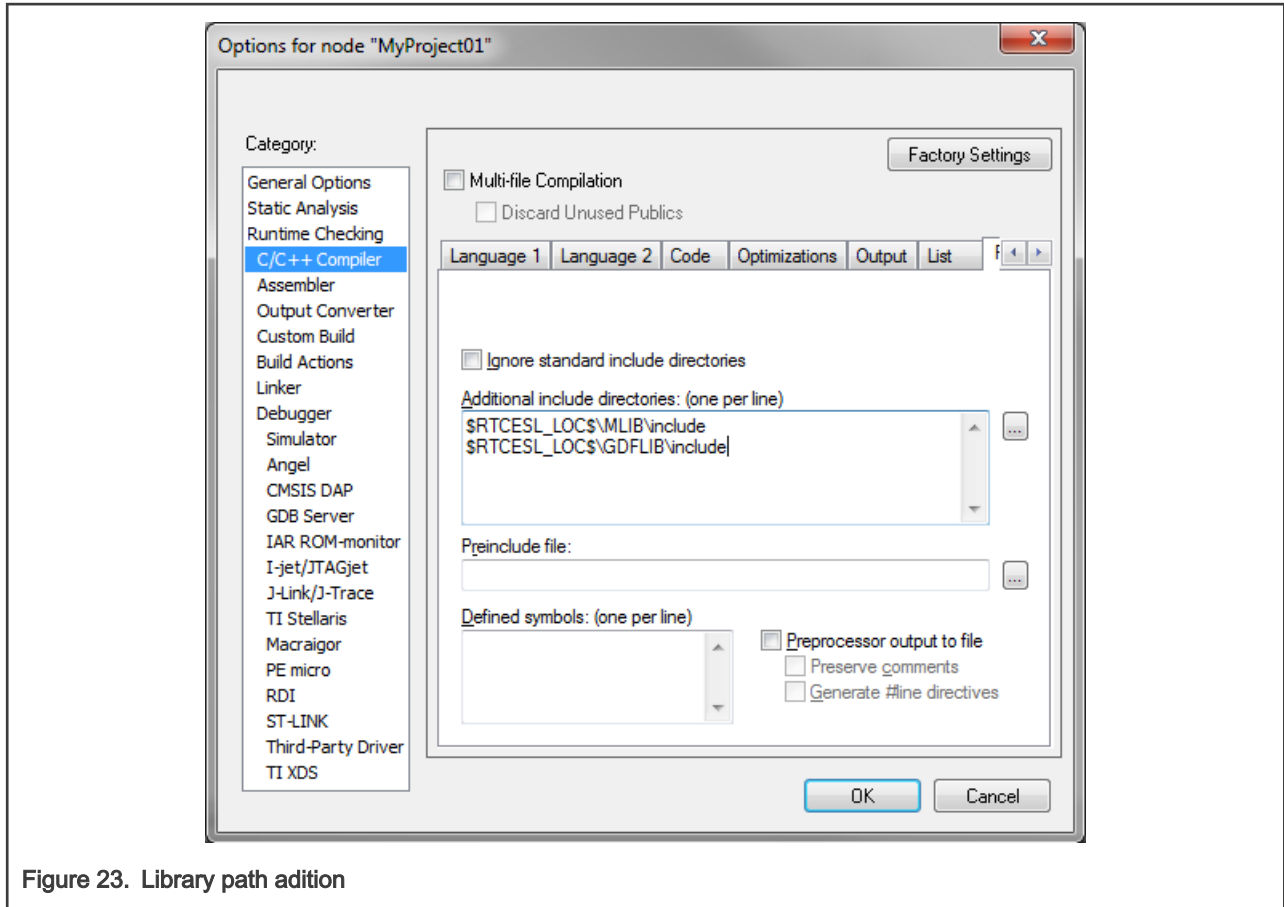

Figure 23. Library path addition
- Click OK in the main dialog. See Figure 23.